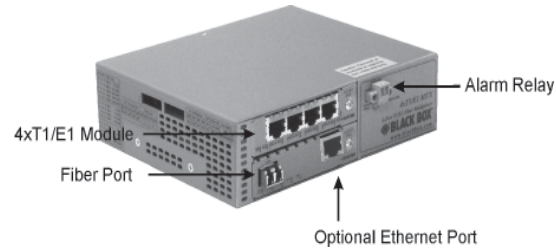

Figure 1: 4xT1/E1 Multiplexer with Optional Ethernet Port
- When using a Transport module with the optional Ethernet port (see Figure 1 on page 3), connect the Ethernet 10/100 UTP port via a Category 5 or better cable to an external 10BASE-T or 100BASE-TX Ethernet device.
- Connect an appropriate multimode or single-mode fiber cable to the fiber port of the Transport module. It is important to ensure that the transmit (TX) is attached to the receive side of the device at the other end and the receive (RX) is attached to the transmit side. When using single-fiber (SF) models, the TX wavelength must match the RX wavelength at the other end and the RX wavelength must match the TX wavelength at the other end.